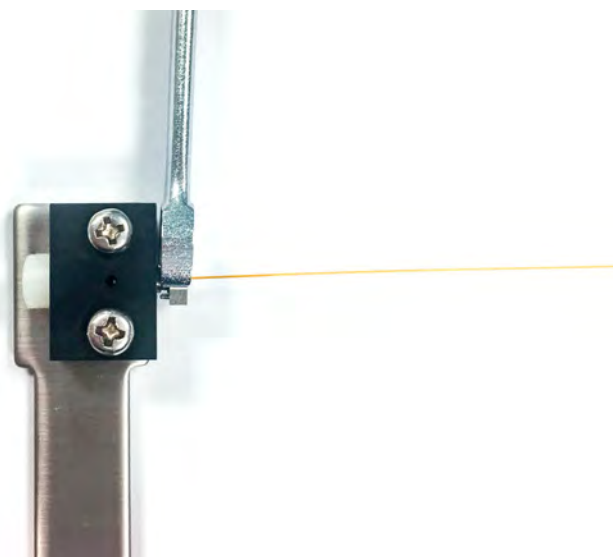

Figure 9. Tighten the internal nut
- c Check if the ferrule is gripping the column. If yes, stop. If not, continue to tighten the internal nut in small 5- to 15-degree increments. Check after each increment to see if the ferrule is gripping the column. Stop as soon as gripping occurs. See **Figure 9**.